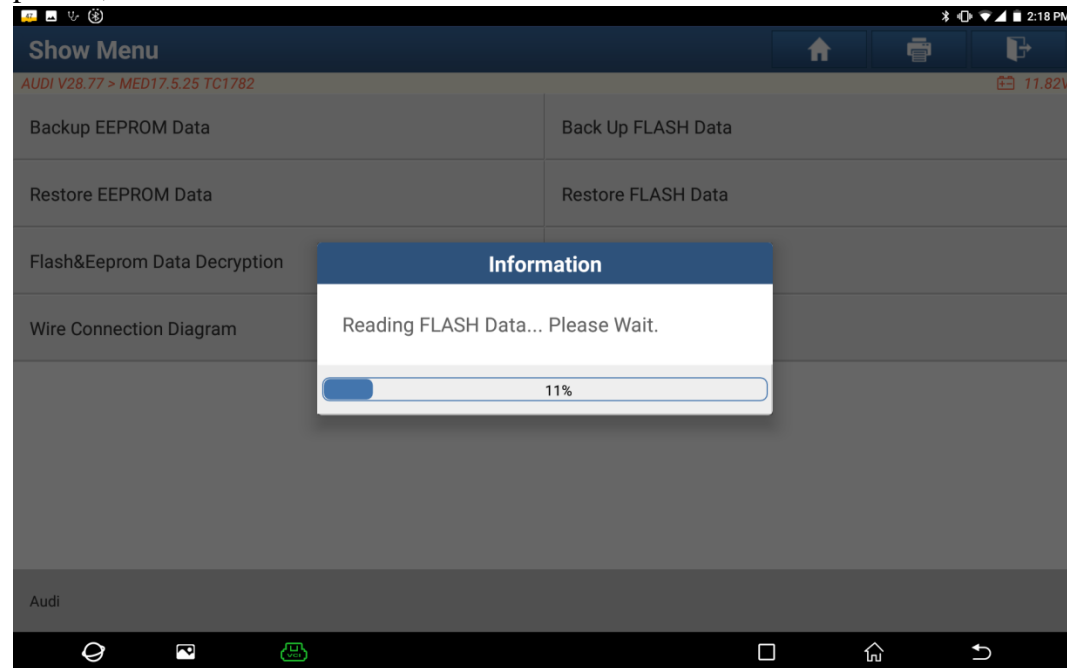

Figure 6
5. Click **【Read Chip ID】** to check if the wiring diagram is correct, and then perform **【Backup EEPROM Data】** and **【Backup FLASH Data】** respectively. The process of reading FLASH data is shown in Figure 6. Note: You need to wait for 3 to 4 minutes to complete reading since the FLASH data of engine is large, please be